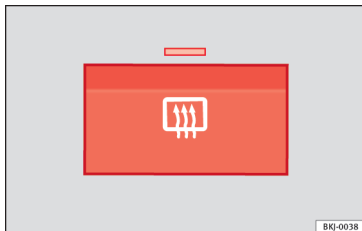

Fig. 148 With the air conditioning controls: heated rear window switch.
- Press the demisting button » **Fig. 148**